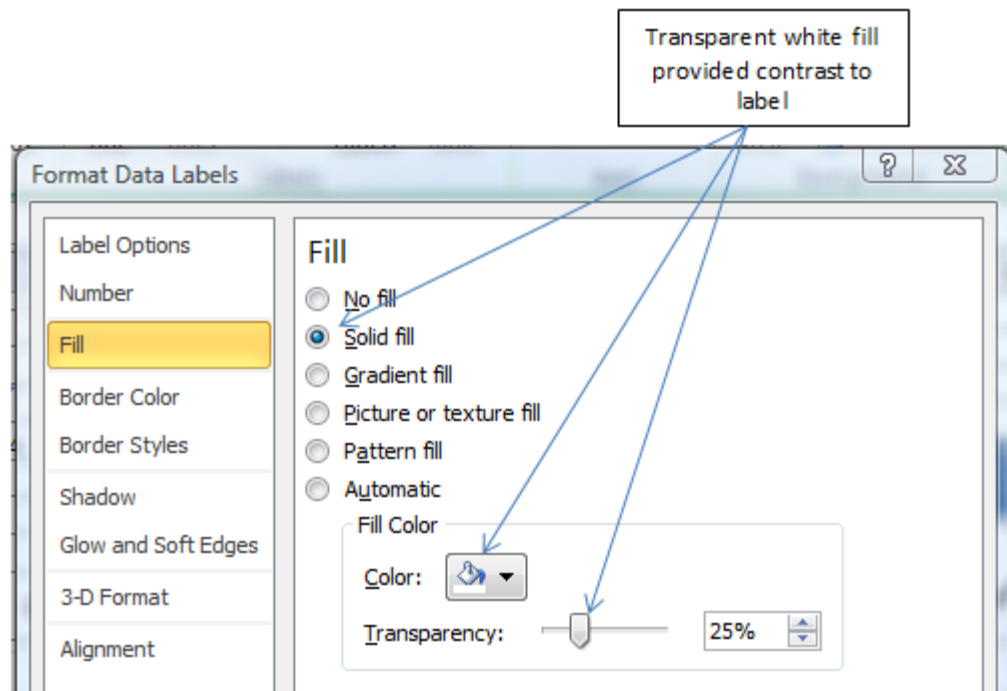

Figure 3.49. Contrast between the label and its background is necessary
8. On the left side of the dialog box, click Fill. Under Fill, click Solid fill. Click the Color button, and then select White. Drag the transparency slide to 25%. Refer to Figure 3.49.